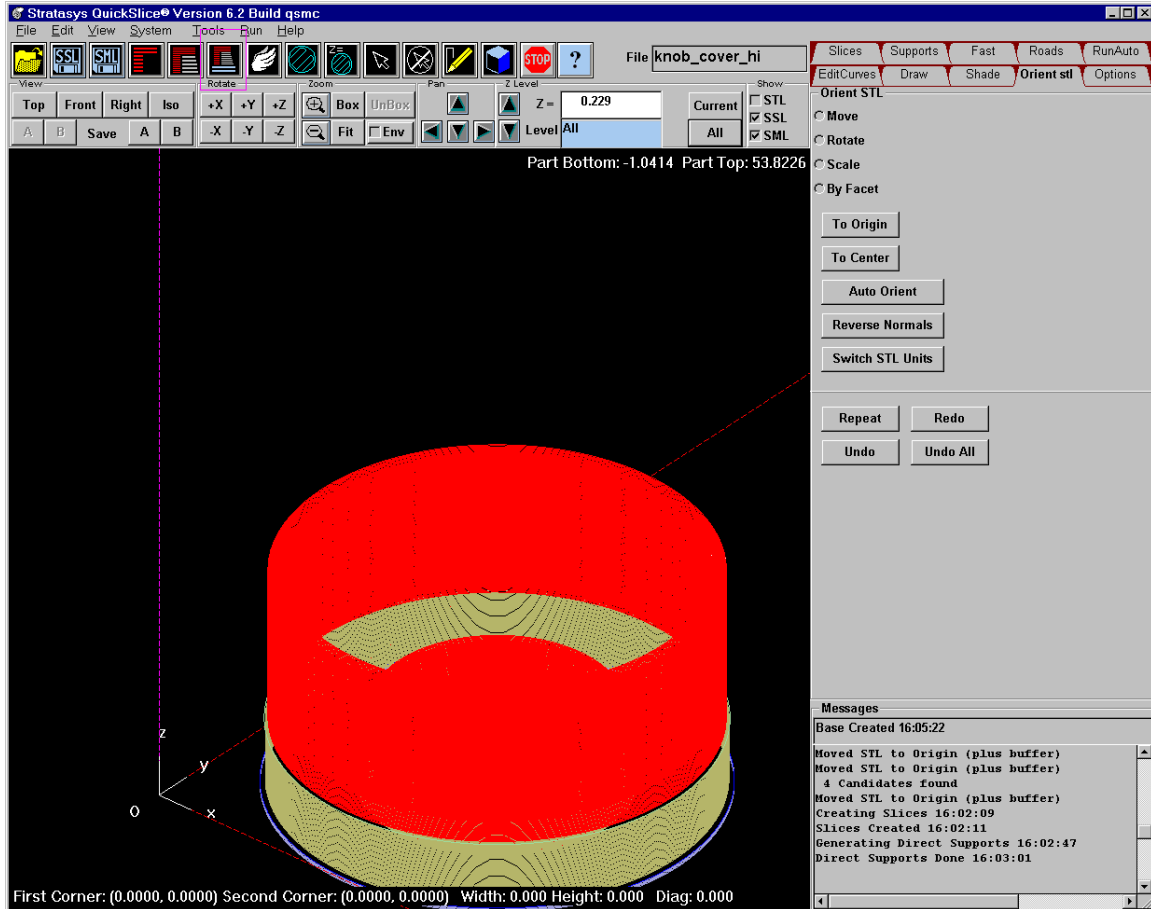

Figure 7: Base Figure.
12. Click on *build base*  icon since all projects will need a base to be stable. Figure 7 below shows base colored in blue. Text in bottom right hand corner displays when machine is finished building base.